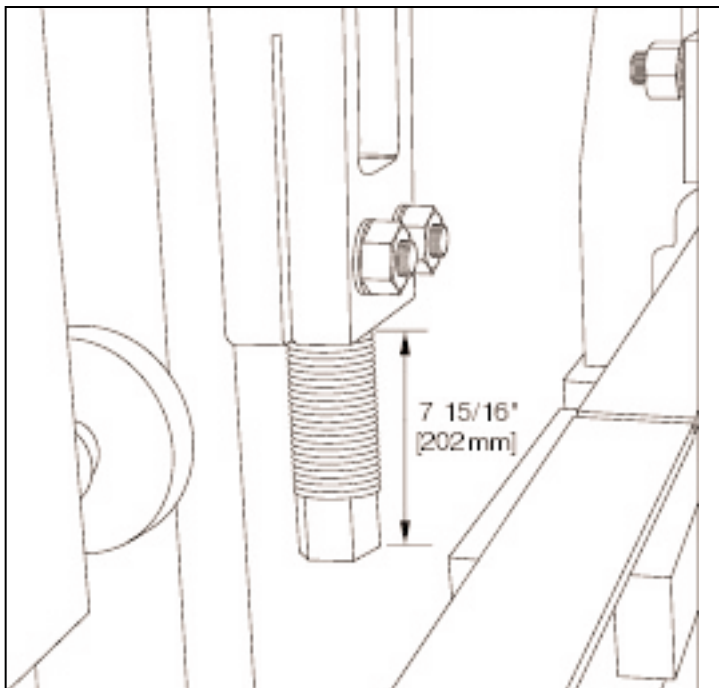

Figure 4.14 UPPER HEIGHT STOPS.
4.1.7 Adjust the upper height stops so that **7 15/16" [202mm]** extends past the bottom of the castings as shown on figure 4.14.